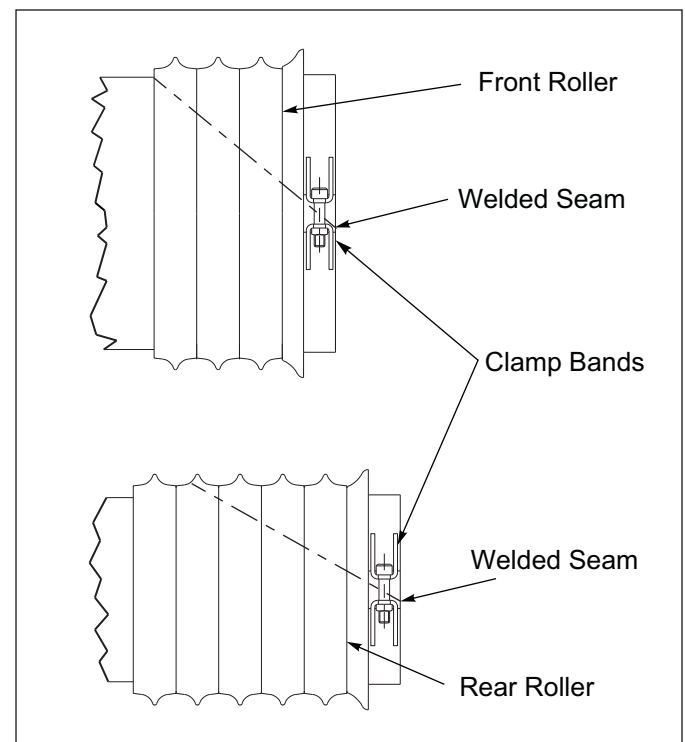

Figure 5-3: Roller Adjustment
3. Position the Clamp Band Socket Head Bolt (Clamp Band open section) over the weld seam on the Roller Drum. **See Figure 5-3.**